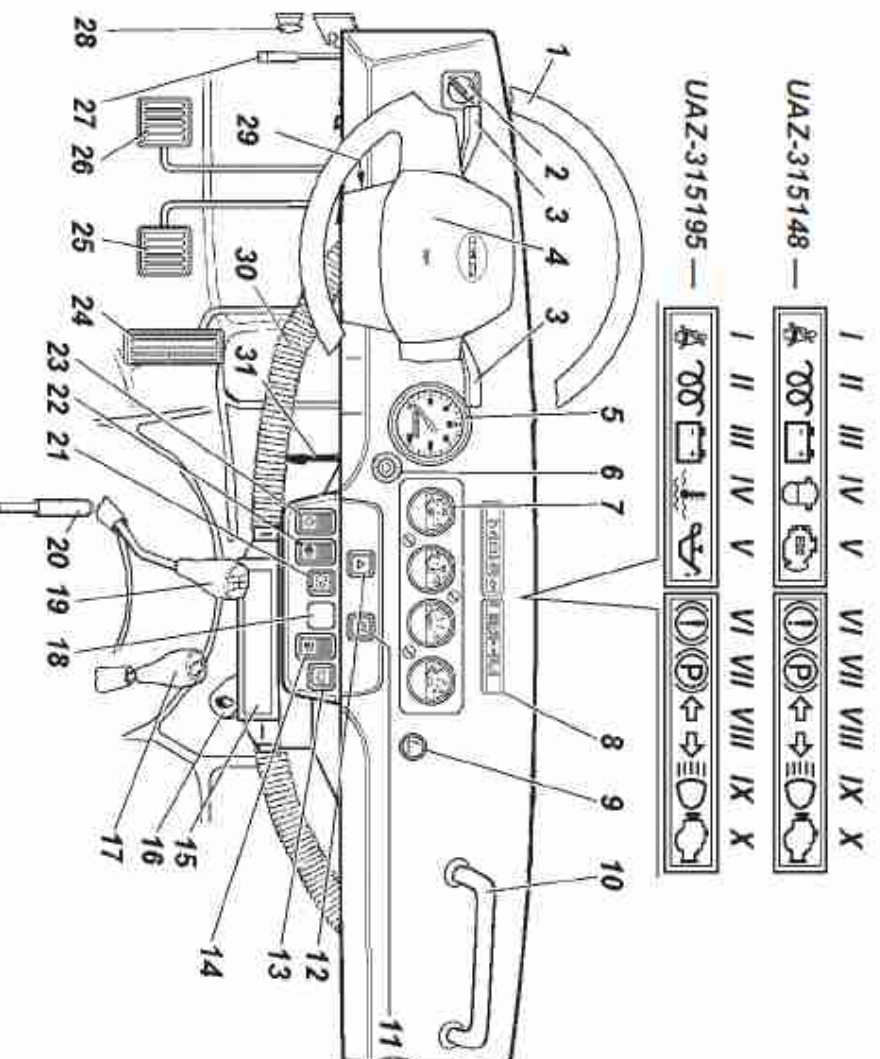

Fig. 3.1. Controls, and passenger seat equipment
For driver seat location of controls and equipment, see Fig. 3.1:
**8 — package of warning lamps** (Fig. 3.1). The green and the blue warning lamps inform the driver of normal operation of the system being switched on. The orange lamps warn the driver of necessity to take measures to ensure further normal operation of the motor vehicle. The red lamps warn the driver of necessity to